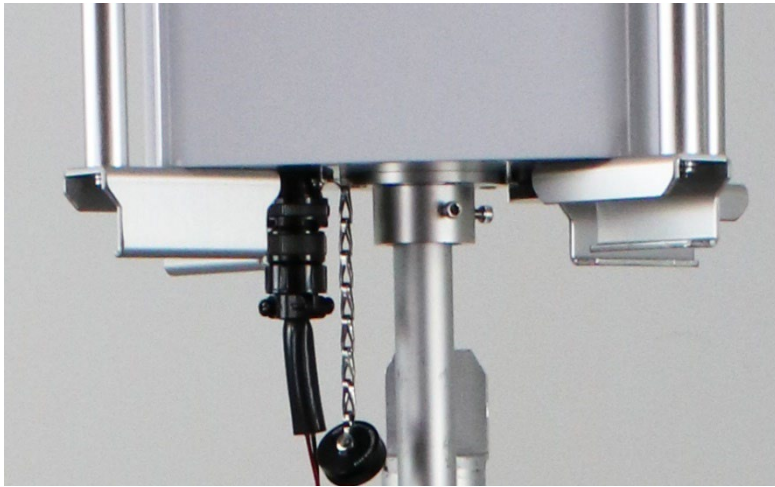

Figure 3-3 ES-808 to Mast
2. There are two Allen cap screws included with the ES-808. Thread the screws into the two tapped holes located near the bottom of the mast receiver and tighten the screws securing the SCAMP to the EX-905 mast (**see Figure 3-3**). Do not overtighten.